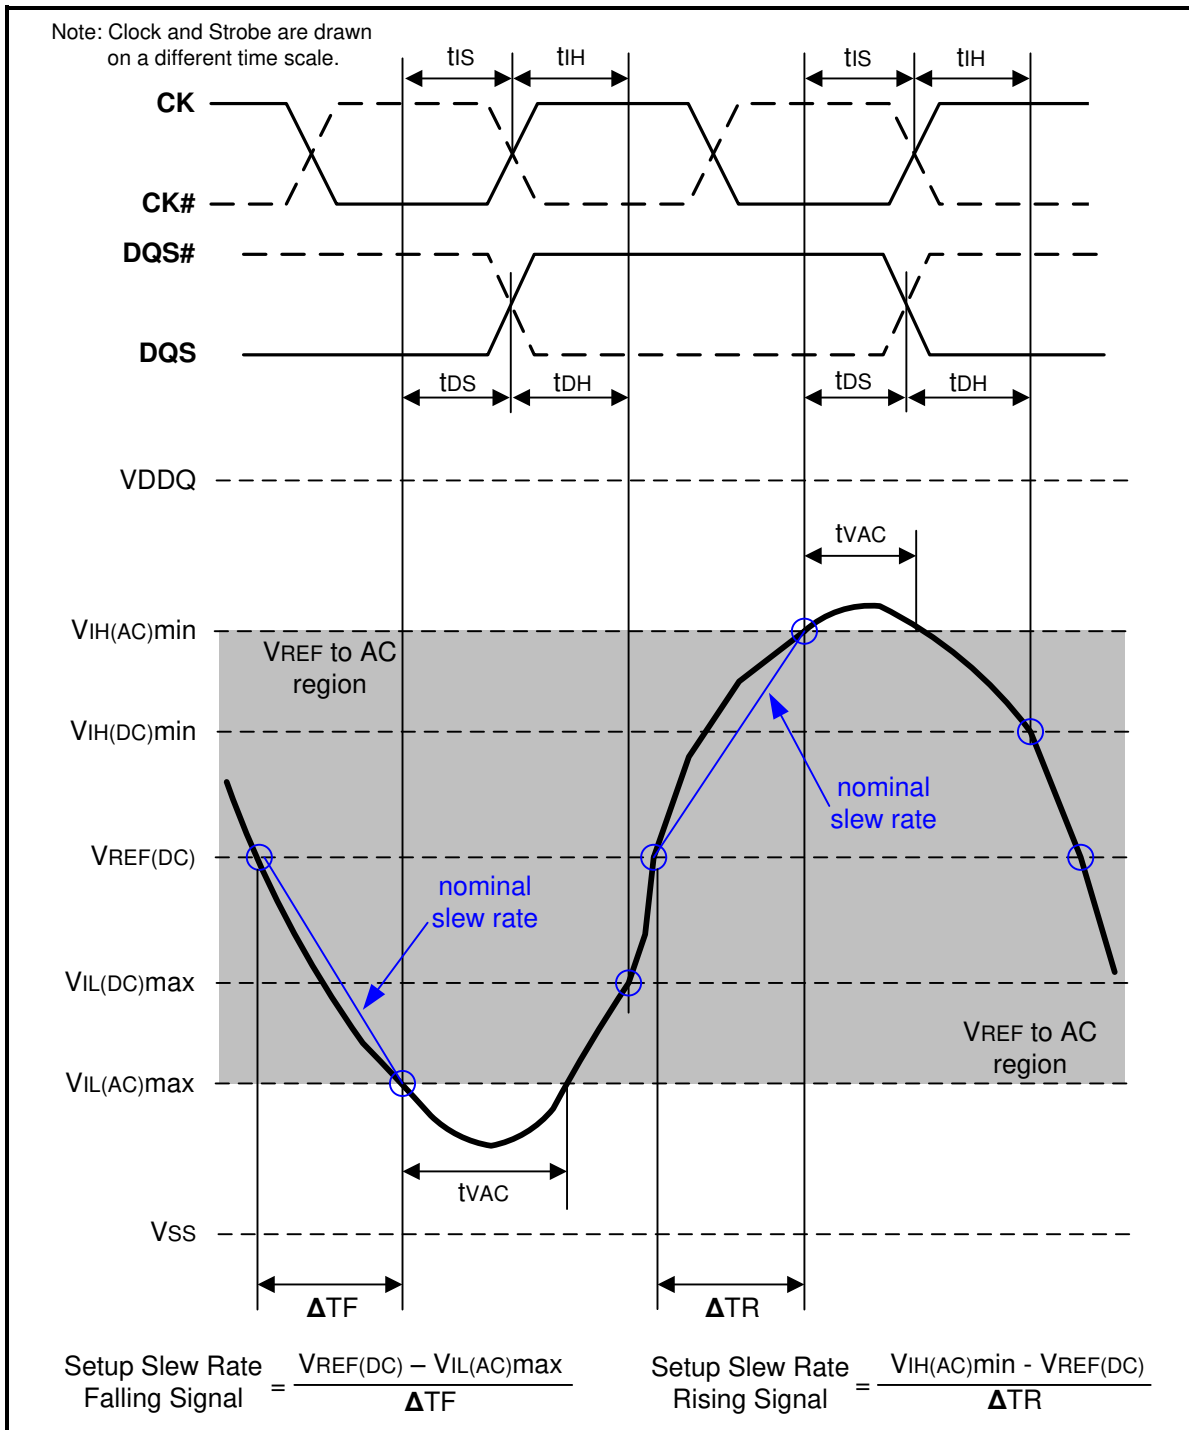
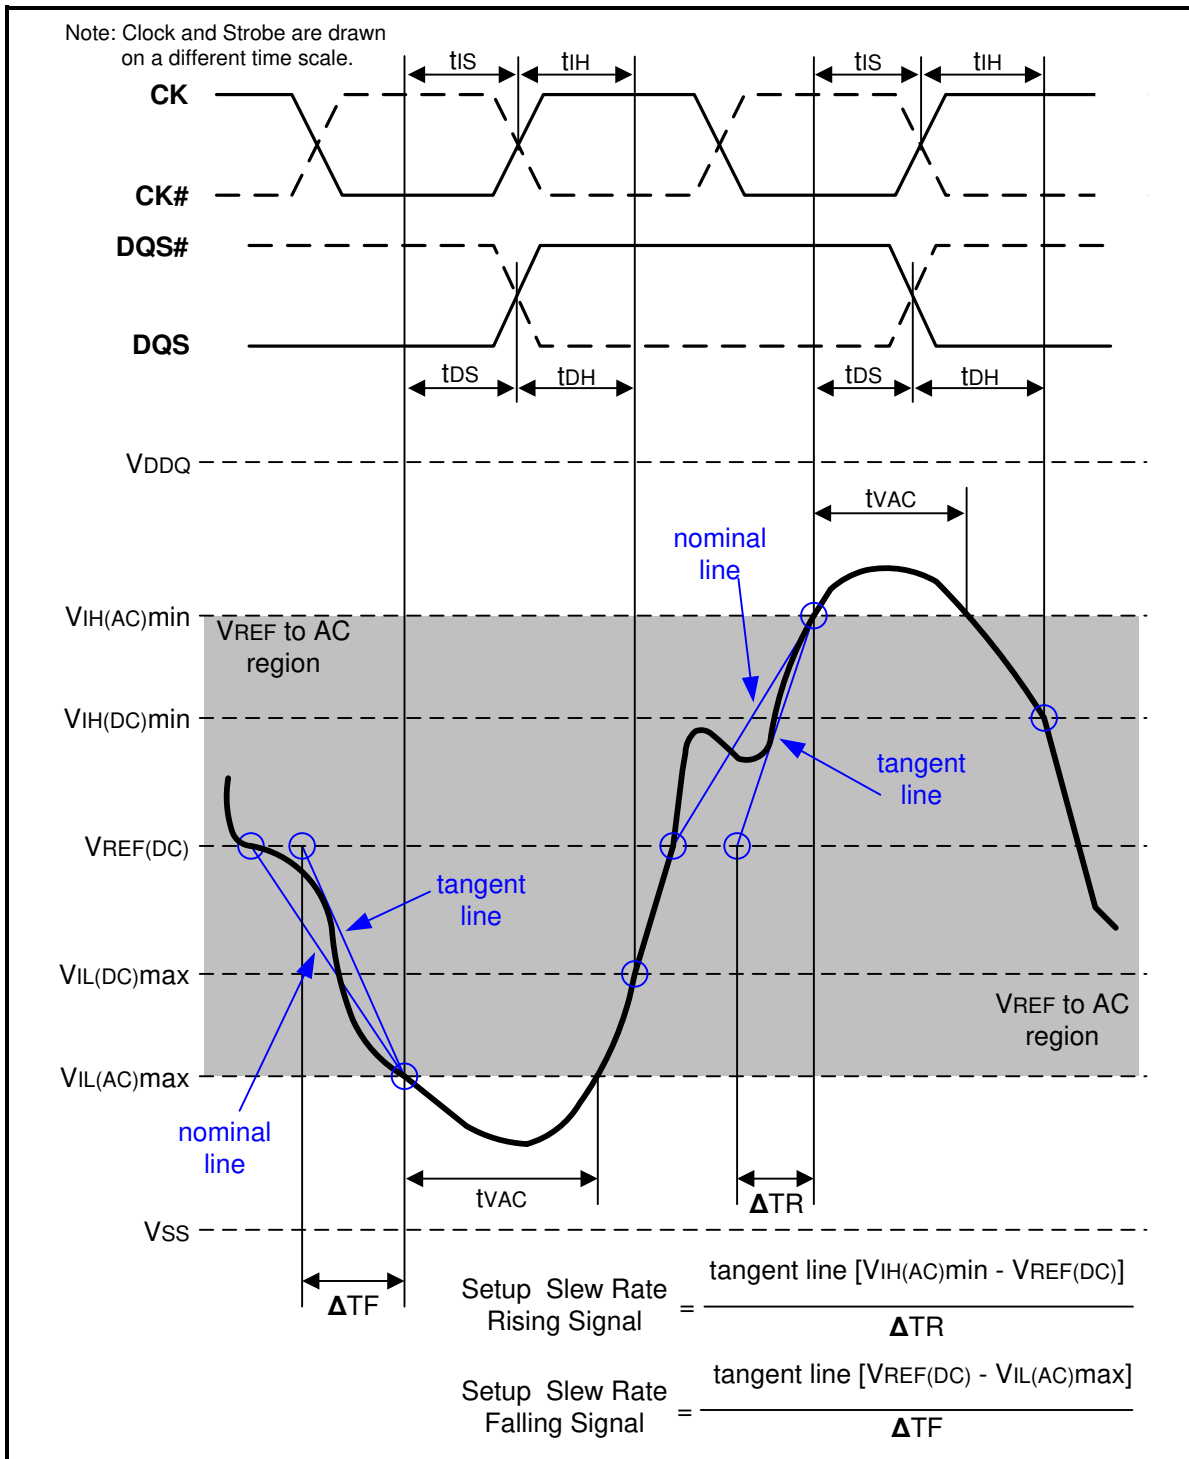

Figure 107 – Illustration of nominal slew rate and tvac for setup time t_{DS} (for DQ with respect to strobe) and t_{IS} (for ADD/CMD with respect to clock)
Figure 109 – Illustration of tangent line for setup time t_{DS} (for DQ with respect to strobe) and t_{IS} (for ADD/CMD with respect to clock)
Setup (t_{IS}) nominal slew rate for a rising signal is defined as the slew rate between the last crossing of $V_{REF(DC)}$ and the first crossing of $V_{IH(AC)min}$. Setup (t_{IS}) nominal slew rate for a falling signal is defined as the slew rate between the last crossing of $V_{REF(DC)}$ and the first crossing of $V_{IL(AC)max}$. If the actual signal is always earlier than the nominal slew rate line between shaded 'VREF(DC) to AC region', use nominal slew rate for derating value (see Figure 107). If the actual signal is later than the nominal slew rate line anywhere between shaded 'VREF(DC) to AC region', the slew rate of a tangent line to the actual signal from the AC level to $V_{REF(DC)}$ level is used for derating value (see Figure 109).
Setup (tDS) nominal slew rate for a rising signal is defined as the slew rate between the last crossing of VREF(DC) and the first crossing of VIH(AC)min. Setup (tDS) nominal slew rate for a falling signal is defined as the slew rate between the last crossing of VREF(DC) and the first crossing of VIL(AC)max (see Figure 107). If the actual signal is always earlier than the nominal slew rate line between shaded 'VREF(DC) to AC region', use nominal slew rate for derating value. If the actual signal is later than the nominal slew rate line anywhere between shaded 'VREF(DC) to AC region', the slew rate of a tangent line to the actual signal from the AC level to VREF(DC) level is used for derating value (see Figure 109).